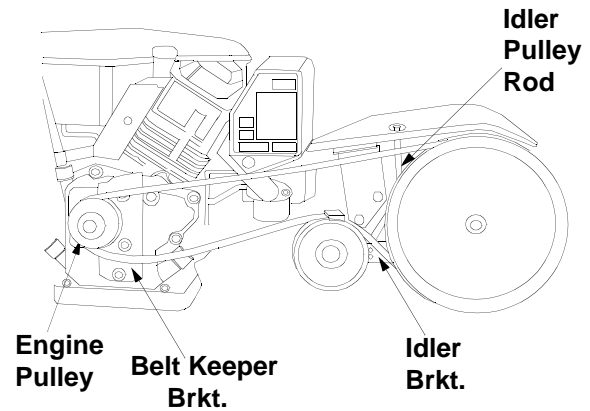

Figure 10
- Remove the hairpin clip and spring washer from the idler pulley rod. See Figure 10.
- Move the idler pulley rod to the lower hole in the idler bracket. See Figure 10.
- Remove the belt keeper bracket located behind the engine pulley by removing two hex bolts and lock washers. See Figure 10.
Upon reassembly, make certain the belt is routed over the idler pulley and inside of belt keepers by engine pulley. See Figure 10.